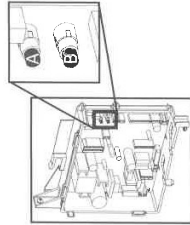

Figure 5: A and B Push Buttons
- Locate the two push buttons (A and B) on the PC Board (Figure 5).